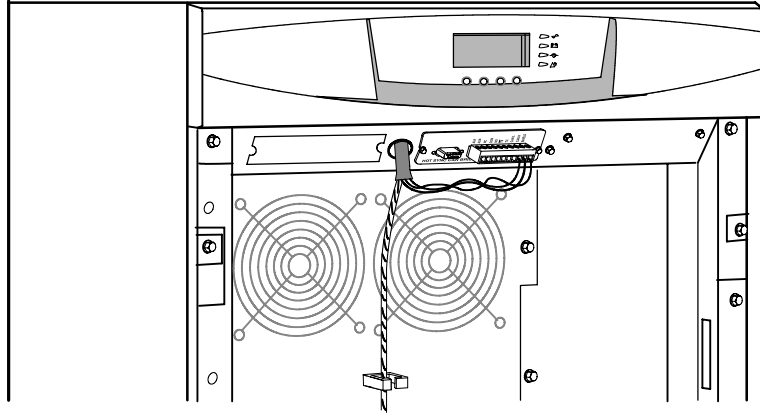

Figure 16. Routing the Cables
8. Route the wiring through the conduit from the communication wiring access plate to the opening between the two X-Slot communication bays on each UPS (see Figure 16).